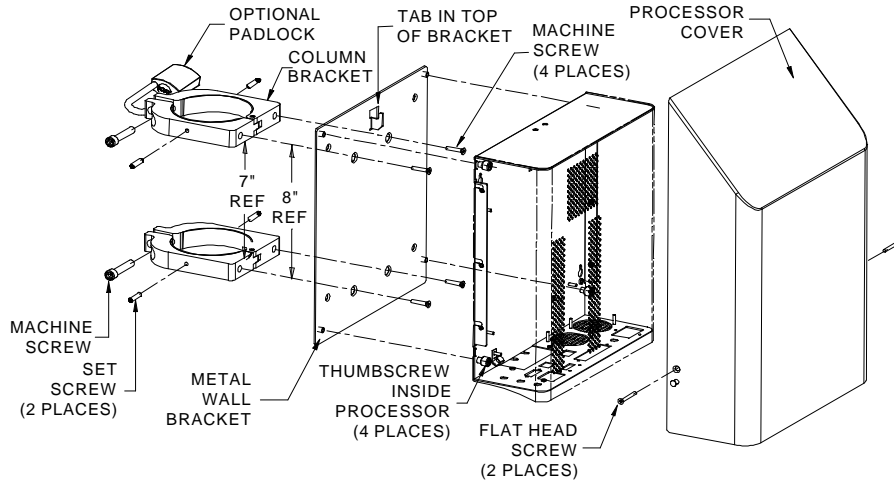

FIGURE 15 - LALLY COLUMN MOUNTING OF PROCESSOR
1. Open one of the column brackets and clamp it to the column at the level where the processor will be mounted. Secure the bracket with the supplied machine screw (3/8 - 16 x 1 - 1/2 L) as shown in Figure 15.
3. Secure the metal wall bracket to the column brackets using the 4 supplied machine screws (3/8 - 16 x 1 L). There are 2 screws for each column bracket. See Figure 15.
4. Install the 2 set screws (1/4 - 20 x 1/2 L) on either side of each column bracket to secure the brackets. See Figure 15.
7. Hang the processor on the wall bracket with the connectors facing downward. The tab on the wall bracket should fit in the slot at the top of the processor. With the processor on the wall bracket, tighten the 4 thumbscrews found inside the processor to secure it to the bracket. See Figure 15.
9. If you are installing the processor cover, place the cover over the processor (with the connector side of the processor remaining accessible) and secure it to the processor with the 2 supplied flat head screws (6 - 32 x 1 L) as shown in Figure 15.